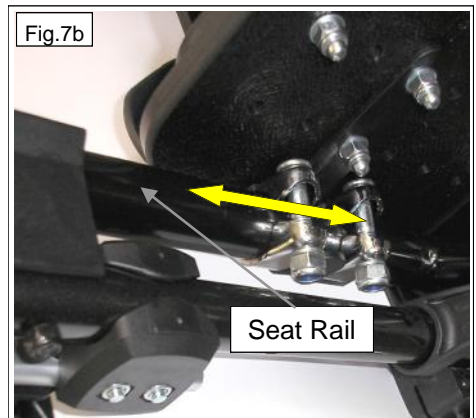

Fig.7b
Method (1) - where the Locating Clamps for the Front Seat Hook Brackets, are fitted to the wheelchair Seat Rails sufficiently rearwards of the Parking Brake Mounts or front Seat Rail Saddles Fig.7b, to allow the Clamps to be moved forwards by approximately 50mm without interfering with the above wheelchair components.